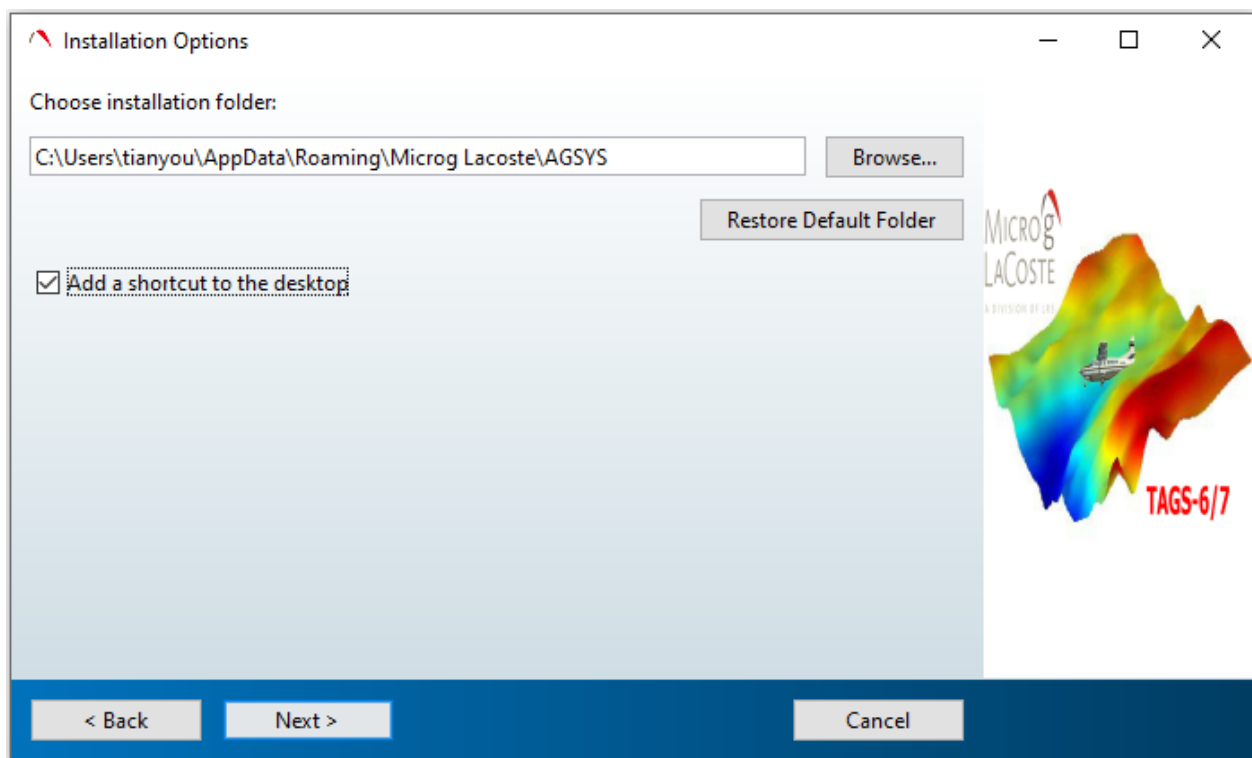

Figure 2-4 Installation Options Dialog
6. In the **Installation Options** dialog (Figure 2-4), enter the full installation path for your site AGSYS installation location.